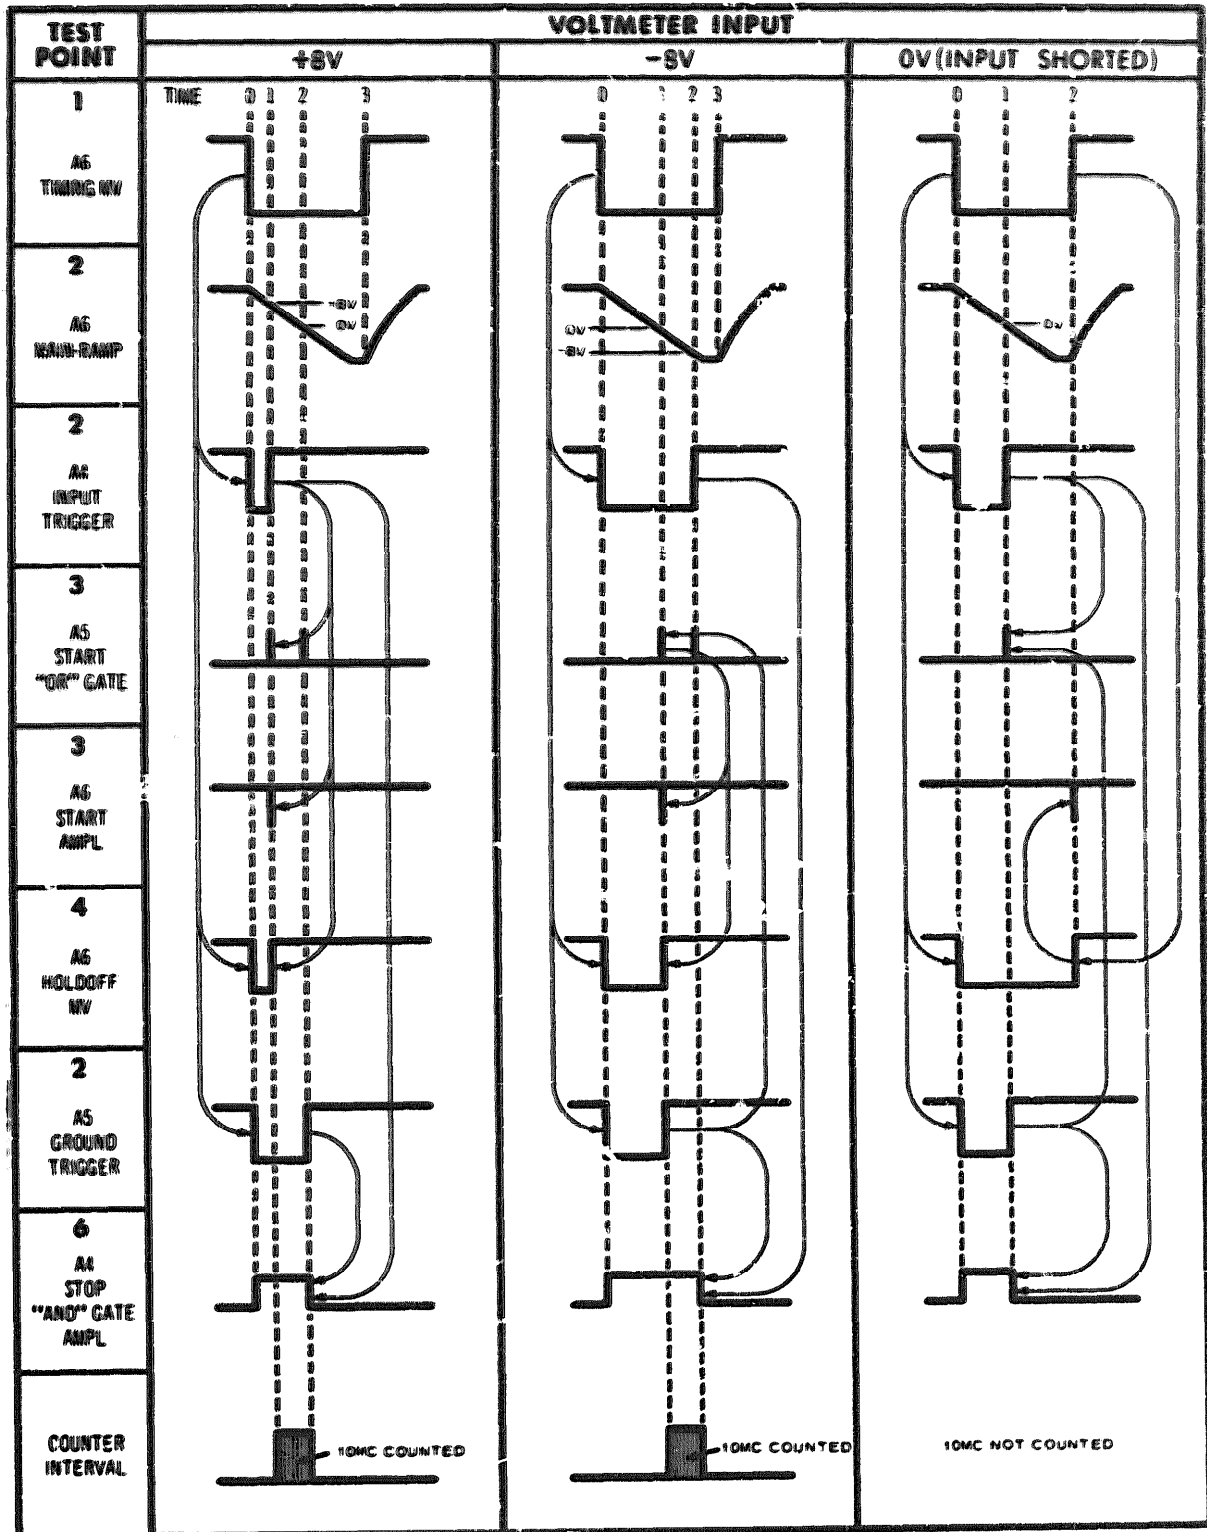

Figure 4-2. *Timing sequence for positive, negative, and 0-volt input.*
b. The PL-1344/U generates two pulses related to the input dc voltage. These pulses are applied to the Counter circuits to control the count and digital display. The pulses act as start and stop pulses to open and close the Counter main gate. While the gate is held open by the PL-1344/U circuits, the counter binaries totalize the Counter 10-MHz pulses. The display corresponds to the input dc voltage level. Figure 4-2 illustrates the timing sequence for the digital voltmeter.